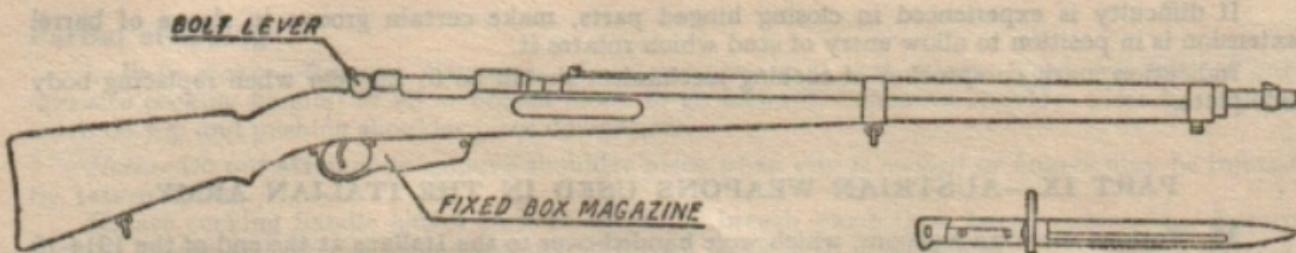

FIG. 21.—8 MM. RIFLE, MOD. 95—MANNLICHER
34. 8 mm. Rifle, Mod. 95—Mannlicher. (See Fig. 21)